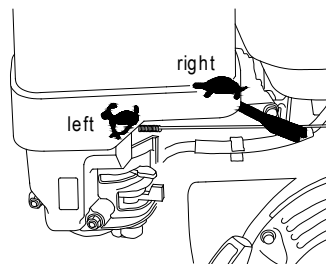

fig. 15
- Position the throttle control lever fully to the left (fig. 15) for the desired engine speed (3000 min.). When the air flow (air pressure) in the system is reached, the green Control Power light (fig. 21-1) at the remote control will be on. Only after the power control light is on, the two solution valves can be activated.